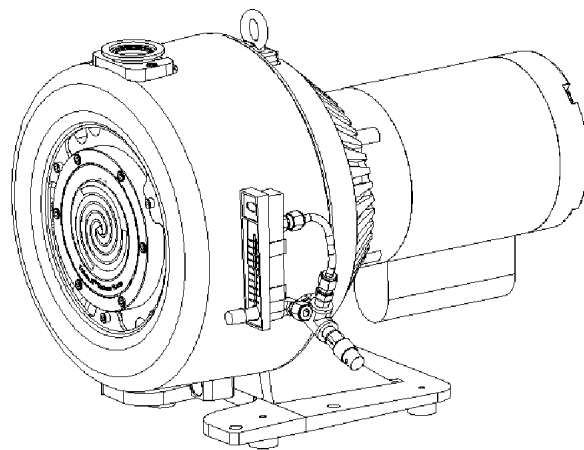

Figure 2: Bearing Purge Installation
2. Install the Tee Subassembly into the Bearing Purge Port. Tighten moderately until the Swagelok fitting is pointing up as shown in Figure 2: Bearing Purge Installation.